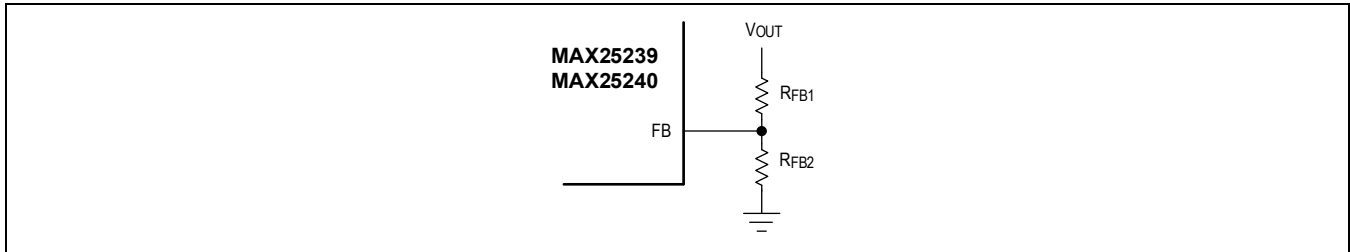

Figure 2. Output Voltage External Adjustment
Connect FB to V_{CC} to enable the fixed output voltage set by a preset internal resistive voltage-divider connected between the feedback pin (FB) and AGND. To externally adjust the output voltage between 3V and 20V, connect a resistive voltage-divider from the output (OUT) to FB to AGND, as shown in Figure 2. Calculate R_{FB1} and R_{FB2} using Equation 12.